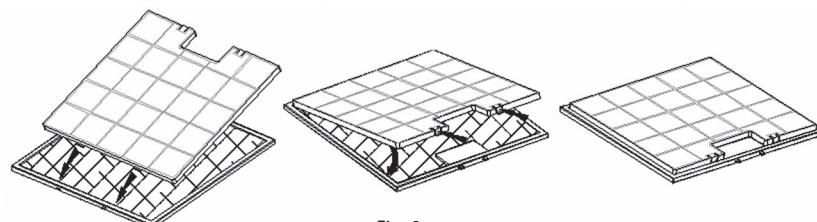

Fig. 2
- Mount new carbon filters on the metal ones (Fig. 2), and put the set back.